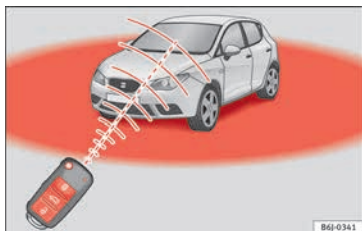

Fig. 132 Range of the radio frequency remote control.
- The radio frequency remote control key functions only when you are within range » Fig. 132.